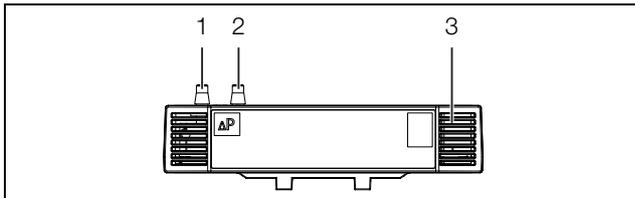
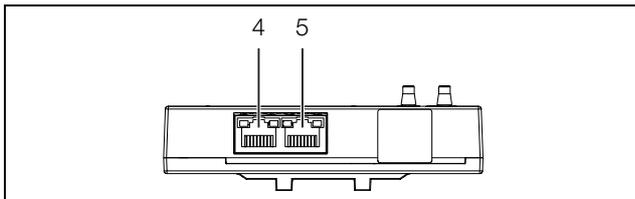

Fig. 12: Front of the differential pressure sensor
Fig. 13: Rear of the differential pressure sensor
A multi-LED for the status display is integrated into the front of the differential pressure sensor (fig. 12, item 3). Further LEDs are located at the rear on the CAN bus connection (fig. 13, item 4 and item 5).